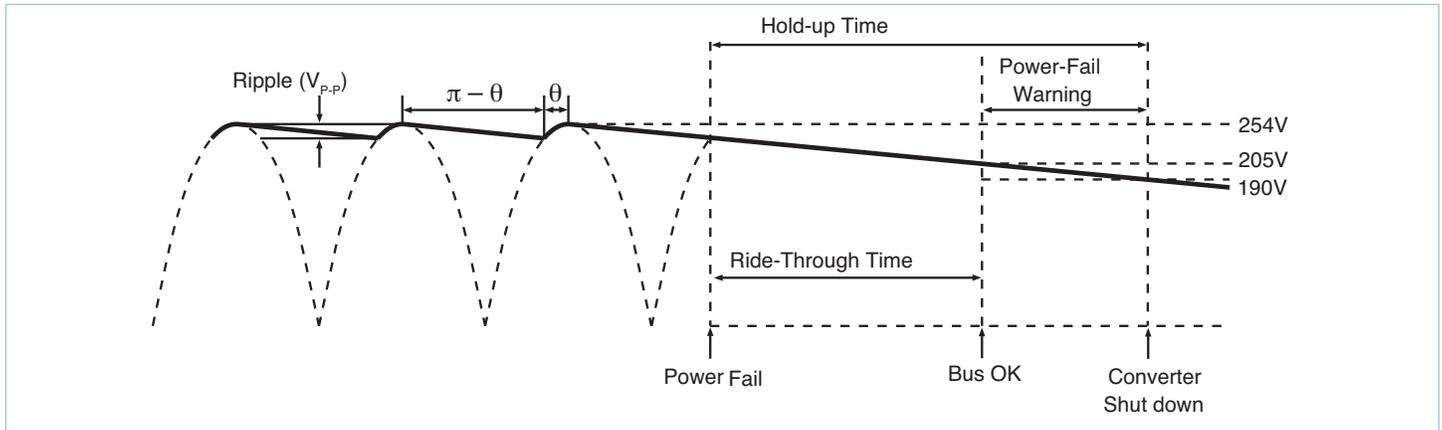
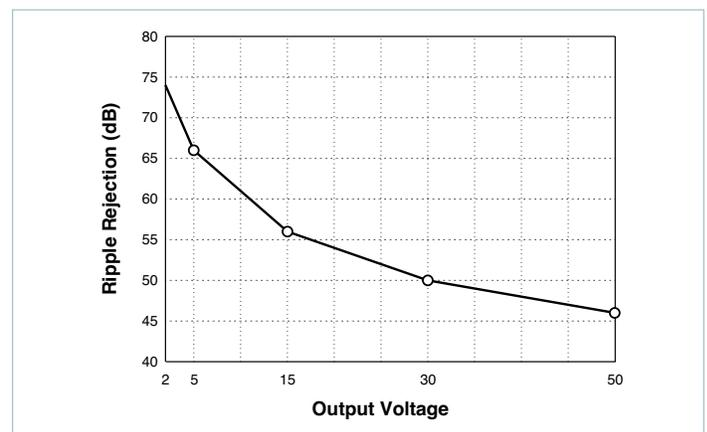

Figure 8.7 — General timing diagram of bus voltage following interruption of the AC mains
Figure 8.11 — Converter ripple rejection vs. output voltage (typical)
Hold-up Capacitors: Hold-up capacitor values should be determined according to output bus voltage ripple, power fail hold-up time, and ride-through time. (Figure 8.7)
The power-fail warning time (Δt) is defined as the interval between Bus OK and converter shut down (EN) as illustrated in Figure 8.7. The Bus OK and Enable thresholds are 205 and 190V, respectively. A simplified relationship between power-fail warning time, operating power, and bus capacitance is obtained by inserting these constants:
For example, a converter whose output is 15V and nominal input is 300V will provide 56dB ripple rejection, i.e., 10V_{p,p} of input ripple will produce 15mV_{p,p} of output ripple. (Figure 8.11) Equation 3 is again used to determine the required capacitance. In this case, V_1 and V_2 are the instantaneous values of bus voltage at the peaks and valleys (Figure 8.7) of the ripple, respectively. The capacitors must hold up the bus voltage for the time interval (Δt) between peaks of the rectified line as given by:
(Figure 8.7)
Figure 8.11 is used to determine the ripple rejection of the DC-DC converter and indicates a ripple rejection of approximately 60dB for a 12V output. Since the ripple on the bus voltage is 12V_{AC} and the ripple rejection of the converter is 60dB, the output ripple of the converter due to ripple on its input (primarily 120Hz) will be 12mV_{p-p}.